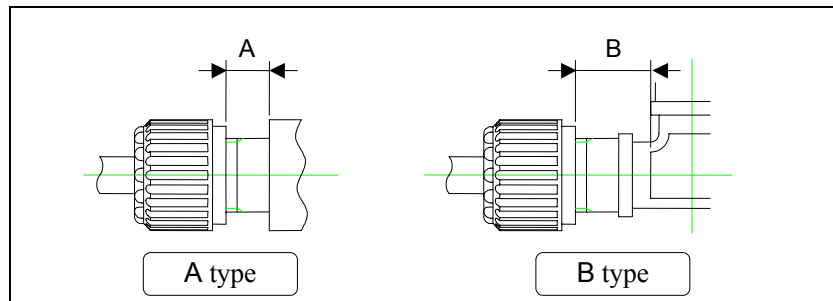

Fig. 20 - Gaps as criterion for tightness check (3, 4, W1)
- 3) A Type Applies to straight type (other than the fittings shown in table 8) injection-molded fittings and machined PTFE fittings (see Fig. 20).
- 4) B Type Applies to injection-molded fittings of elbow and Tee type (see Fig. 20).